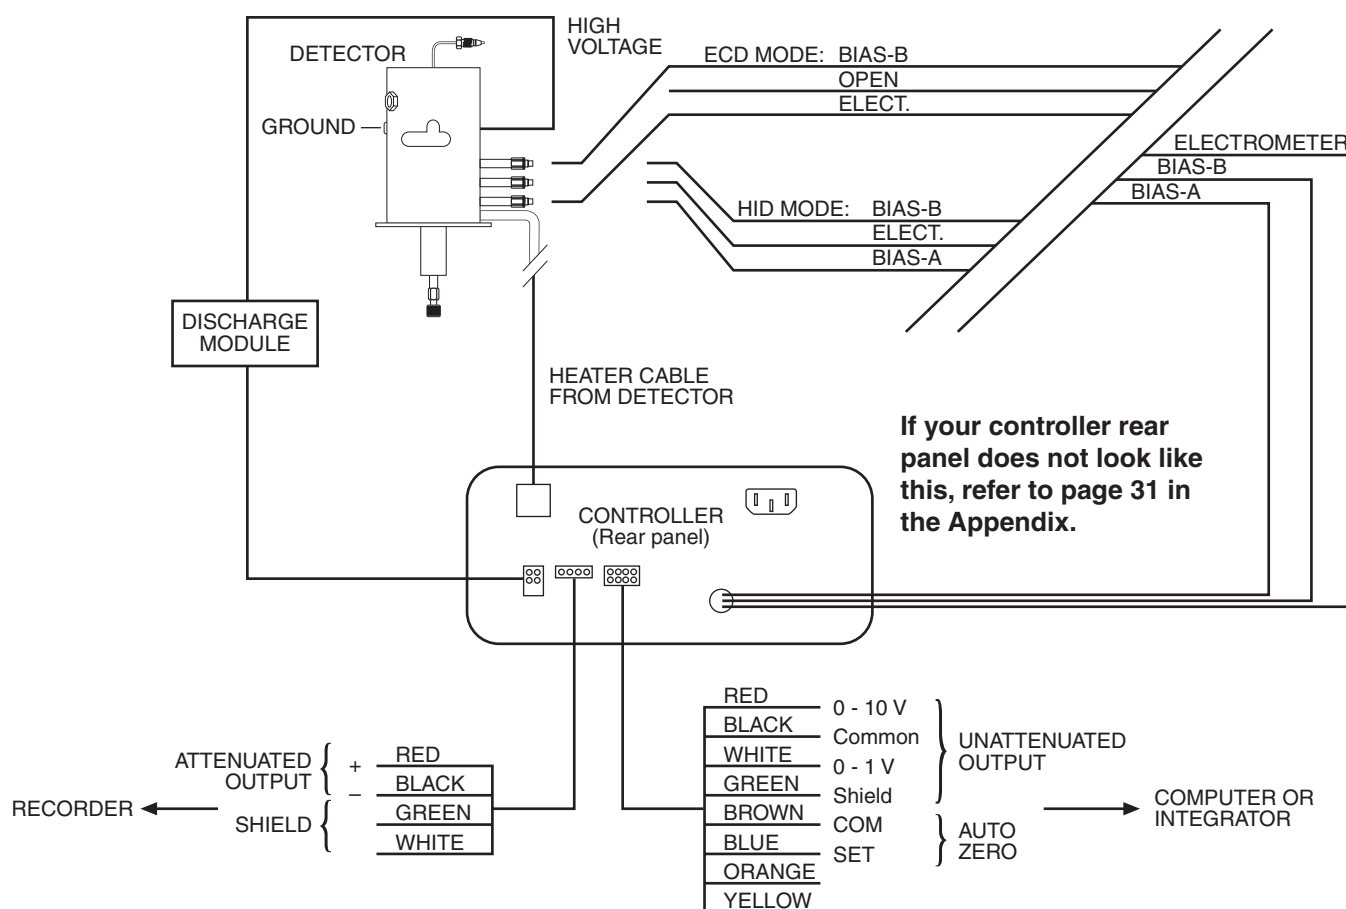

Figure 6: Electrical connections
1. Referring to **Figure 6** as necessary, connect the bias and electrometer cables as follows: the **BIAS-B** cable to the top electrode (closest to the discharge electrodes), the electrometer cable (**ELECT**) to the middle, and the **BIAS-A** cable to the bottom electrode. This setup is the same for both detector models.